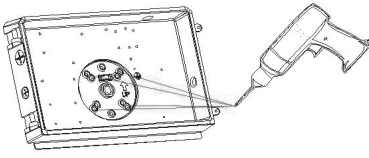

Figure 5
4. Drill through the mounting hole with an electric drill matching the mounting pattern of the electrical junction box. (Figure 5)